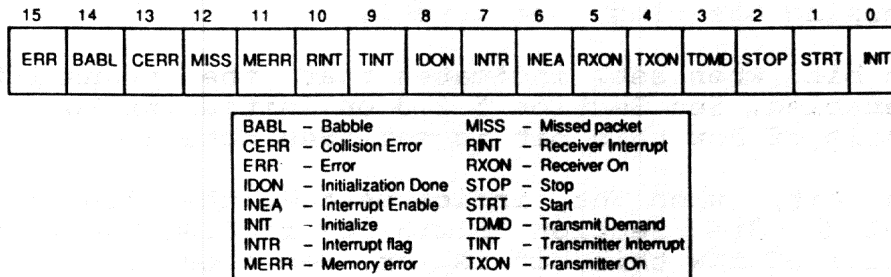

Figure 5-2: LANCE CSR0 Bit Definitions
5.2.1.1 Device Control and Status Word (CSR0) - CSR0 is one word long, and provides control and status information for the whole device. Figure 5-2 shows the names used for each bit in the word, and Table 5-1 explains the meaning and use of each bit.